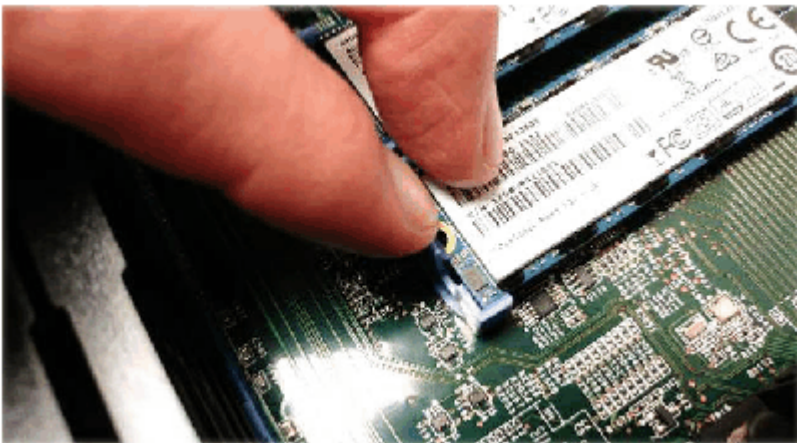

Figure 99. Removing the boot drive
IBM Storage FlashSystem node canisters have dual boot drives. Figure 99 on page 145 and Figure 101 on page 146 show examples of a dual boot system. You can run with one boot drive only, and you get a non-fatal error for the second failed one. See “Procedure: Understanding system volume dependencies” on page 109 to check for dependencies before you shut down the node.
7. Gently open the blue friction latch, as shown in Figure 99 on page 145. Apply gentle pressure; do not force the latch open.